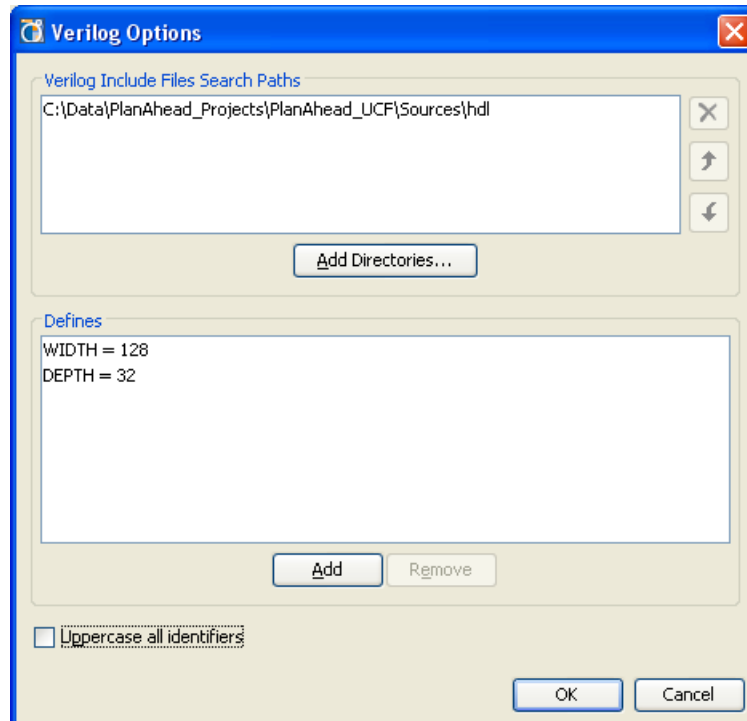

Figure 3-47: Verilog Options
- **Verilog Options** — Specify Verilog options as defined below. These options are defined on the Verilog Options dialog box, are shown in Figure 3-47, page 94.